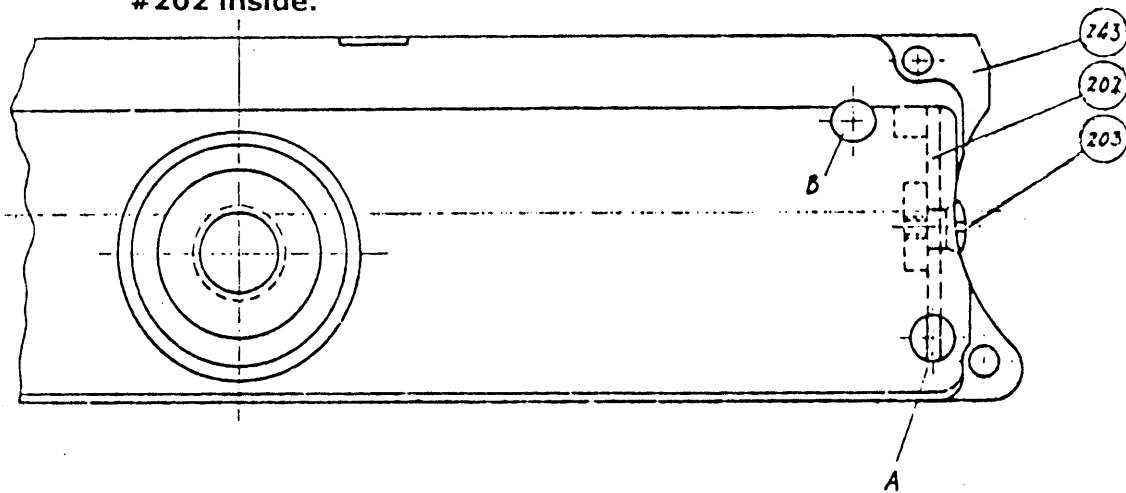

Fig. 5 - 1
- (1) First check if the "Q - Assembly" (a part provided with a tripod socket) in the camera is the one which operates the Motor Drive or not. If it is not, replace it with correct one. The bottom plate #243 can be identified by two holes as shown in Fig. 5 - 1 and a see - saw shutter release lever #202 inside.